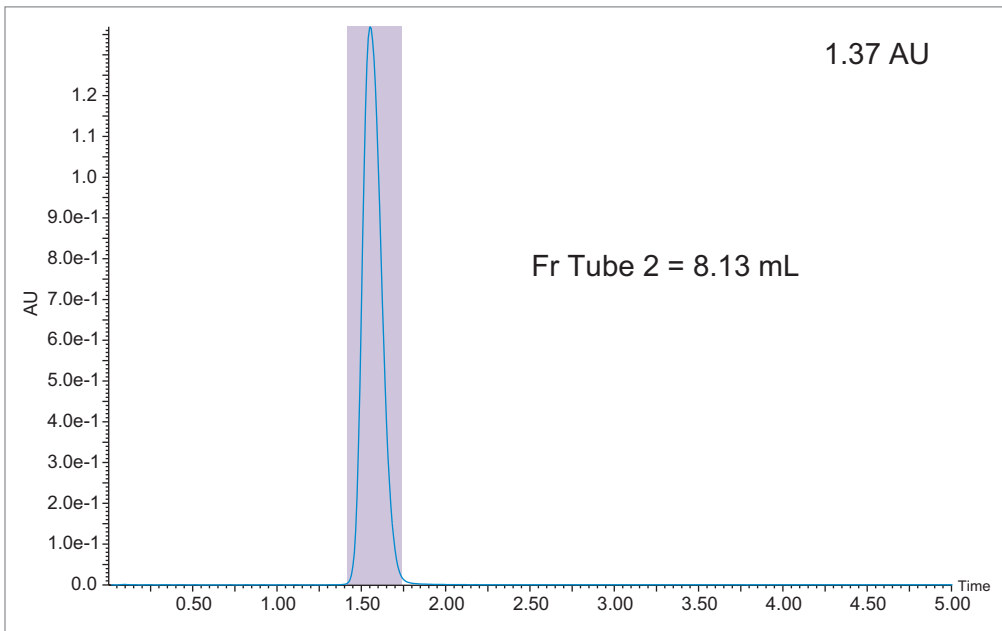

Figure 5. Analyte collection by UV trigger.
A. Collected the fraction by UV trigger at 254 nm. The chromatogram should be similar to the one shown in Figure 5.